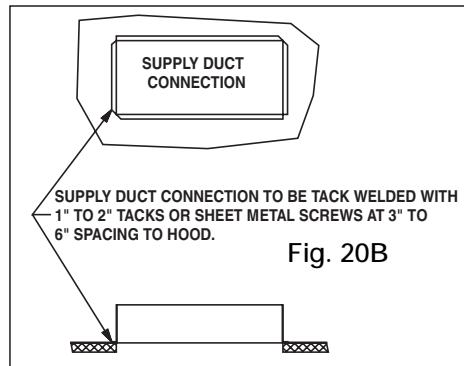

Fig. 20B
3. The supply duct connection is tack welded at 1 in. to 2 in. intervals, or sheet metal screws at 3 in. to 6 in. spacing to the hood. (see Fig. 20B)